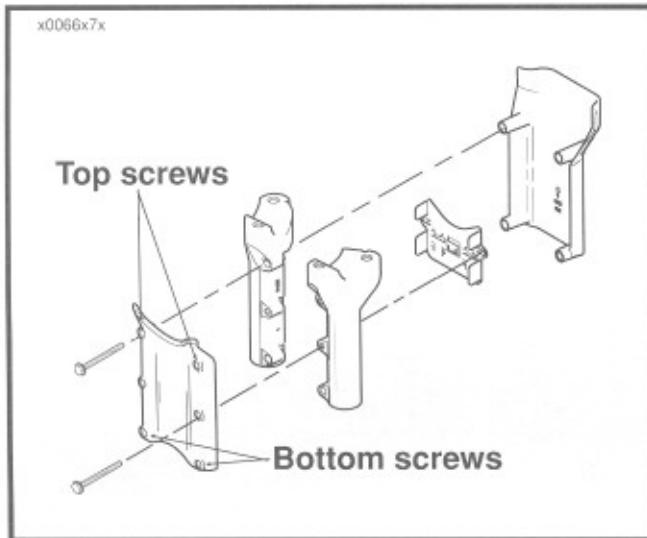
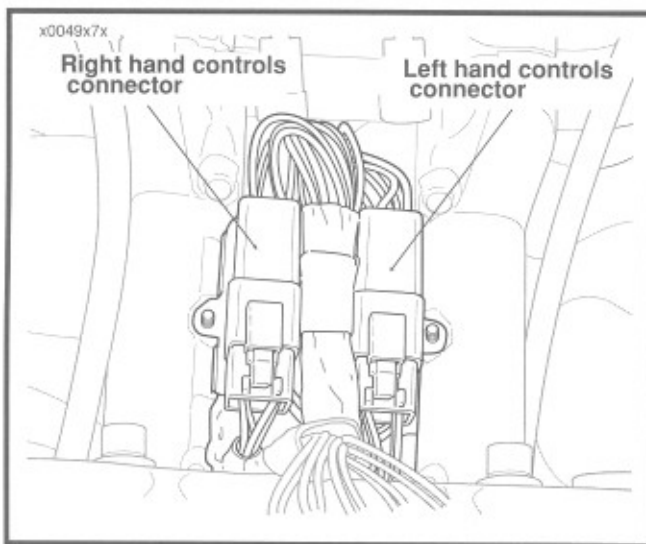

Figure 7-62. XL Custom riser cover
Figure 7-64. XL Custom - Riser cover removed
2. See Figure 7-62. On XL Custom remove top and bottom pair of screws from the rear of the riser cover. See Figure 7-64 and 7-65. Remove front of riser cover to expose electrical bracket. Slide electrical bracket off center screws. Indicator lamp socket is on backside of bracket.